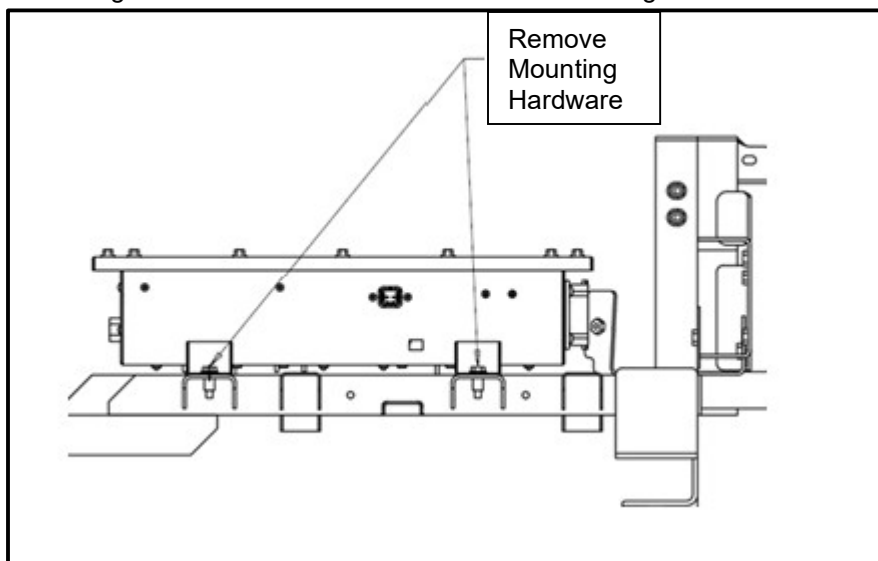

Figure 5: HVDM Assy mounting hardware location reference.
12. Remove HVDM mounting bolts and set aside for reinstallation. See Figure 5.